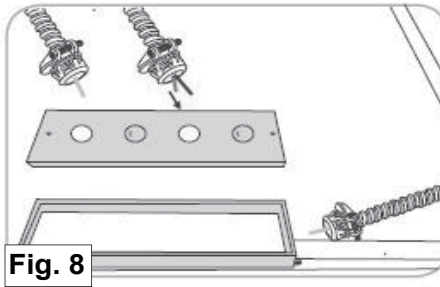

Fig. 8
8. Prepare to electrically connect the fixture (Fig. 8).